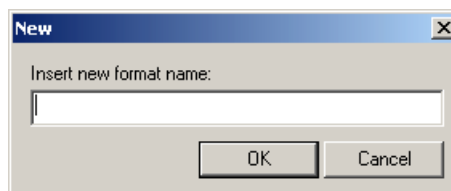

Fig.79 - New window
- 2) Select the **New** command. Type the new format name in the **New** window of fig. 79. Give the **OK** command to close the window.